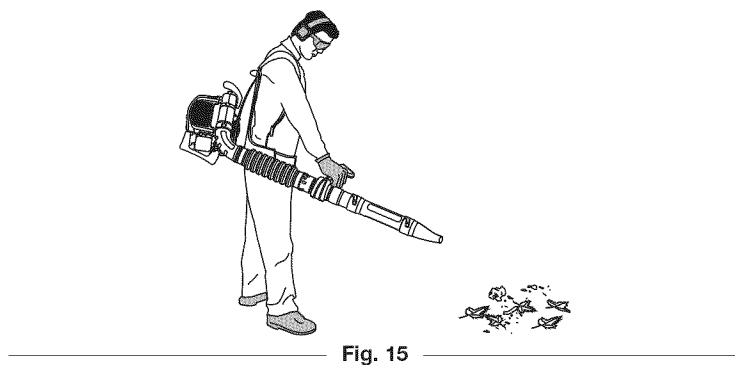

Fig. 15
- Stand in the operating position (Fig. 15).